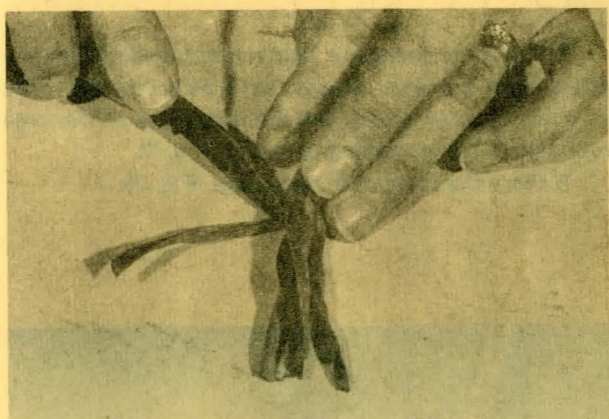

Figure 5
4. Remove the extra material that surrounds the three inside wires. One wire will be black, one white, and one green (Fig. 5).